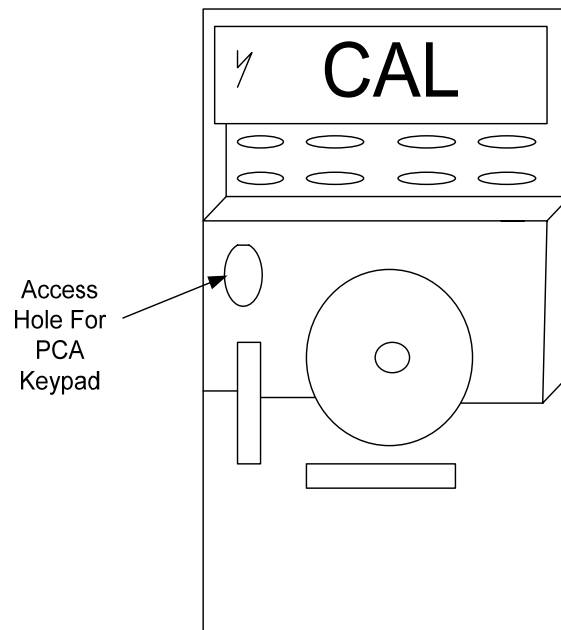

Figure 1. Restoring the default password.
i. Through an access hole provided in the top shield, short across the keypads on the PCA (see figure 1). The meter should beep. The default password is now restored.